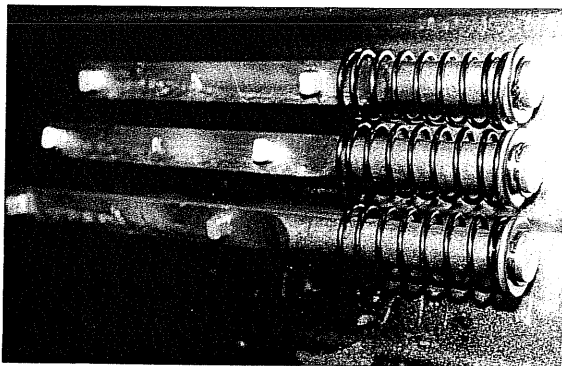

Fig. 47 Unloader Push Rod
- b) Remove the coil portion of the unloader solenoid valve (remove the nut which secures the coil) and remove the unloader cover bolt (Fig. 47). Since the cover will move outward due to pressure from the unloader spring, be sure to keep a grip on the cover.